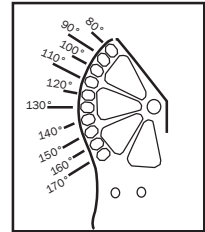

Fig. 47
1. The Flyer has an additional recline option to extend the back angle adjustment to full recline range of 80° to 170° of recline adjustment. Fig. 47